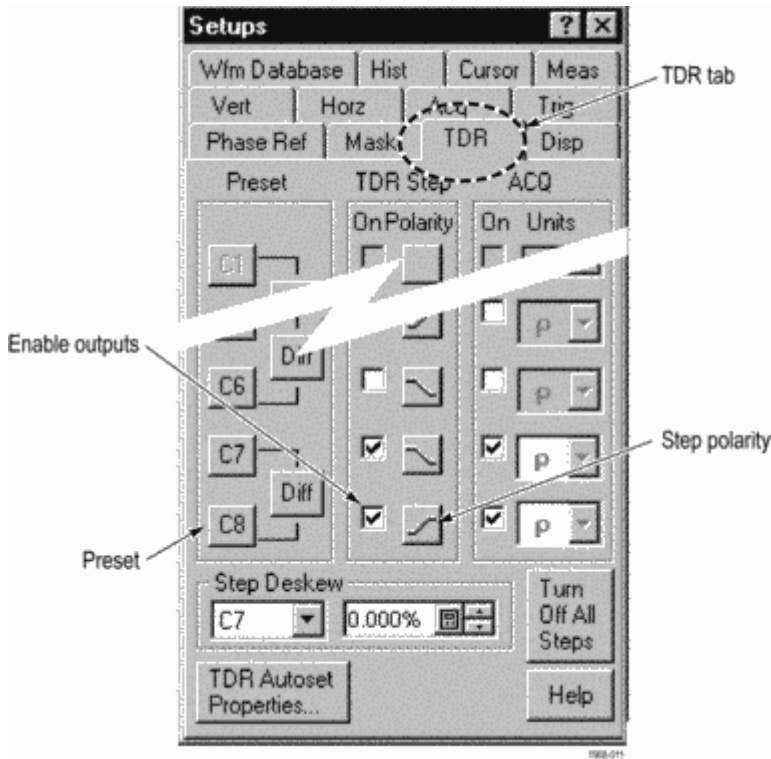

Figure 31: Setting the TDR parameters
3. Set the Channel 7/8 sampling head to TDR mode: Press the SETUP DIALOGS button and select the TDR tab. (See Figure 31.)